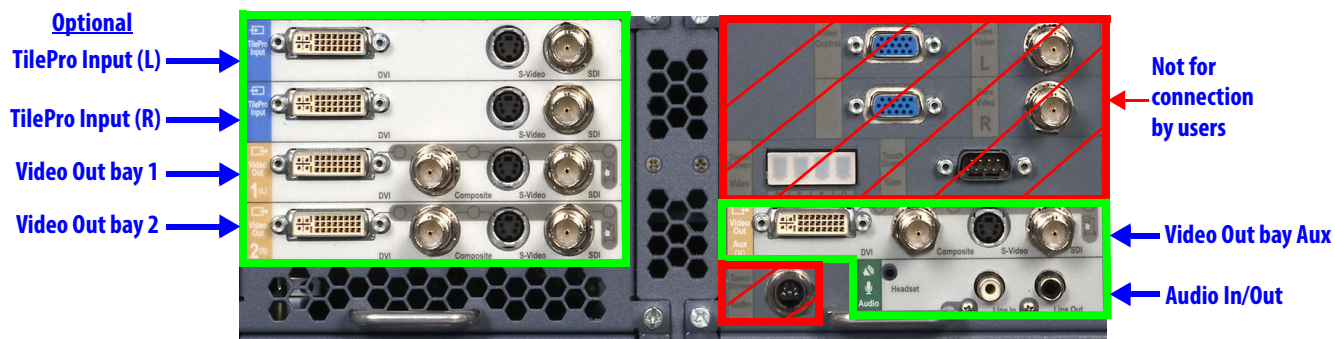

Figure 4.15 Video and audio connections (back of Core)
Note: The four Core video in and out bays shown on the left in Figure 4.15 (in green box, the *TilePro* Inputs and Video Out bays 1 and 2) are not available by default; they are made available in conjunction with optional upgrades, for example, with purchase of a second console to support dual console surgery. Video Out bay Aux and the Audio In/Out bay, at lower right, are available by default. The default *TilePro* Inputs are available on the back of the Surgeon Console.
Note: Connectors on the Core (and other components on the Vision Cart) labeled with gray text on a dull background, as those indicated by red boxes in Figure 4.15 above, are connected as necessary by authorized ISI personnel when they install and/or service the system. Therefore no instructions are provided for connecting them in this user manual, although the labels themselves are described in Appendix G: Symbols, Icons and Text Messages Reference. Do not unplug any of these connections.
Two video input bays (Figure 4.15) are provided on the back of the Surgeon Console to enable multi-image mode (*TilePro*) in the Surgeon Console. Each video input bay is capable of accepting a single DVI, HD-SDI, or S-Video signal.
- If an upgrade has been installed that makes available the optional **TilePro Input** bays on the Core (see Figure 4.15), you can use either set of *TilePro* inputs, but not more than two. The system automatically checks for *TilePro* connections in order: first on the Core (if present), then on the Surgeon Console. The Core *TilePro* inputs take precedence if they are in use.
The Core supports up to three video output bays (Figure 4.15). Video output from all three includes the icons and text messages displayed in the Surgeon Console. Each video output bay supports a single DVI, HD-SDI, S-Video, or Composite signal.
Three connectors are provided on the audio bay (Figure 4.15).